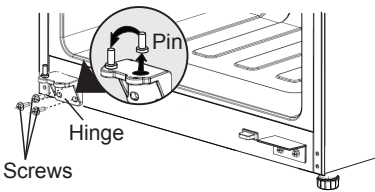

**Figure 6**
- Remove three screws that hold the bottom hinge to lower end of cabinet. Remove the trim bracket from lower left hand corner and transfer to holes where bottom hinge was just removed. (See Figure 6.)